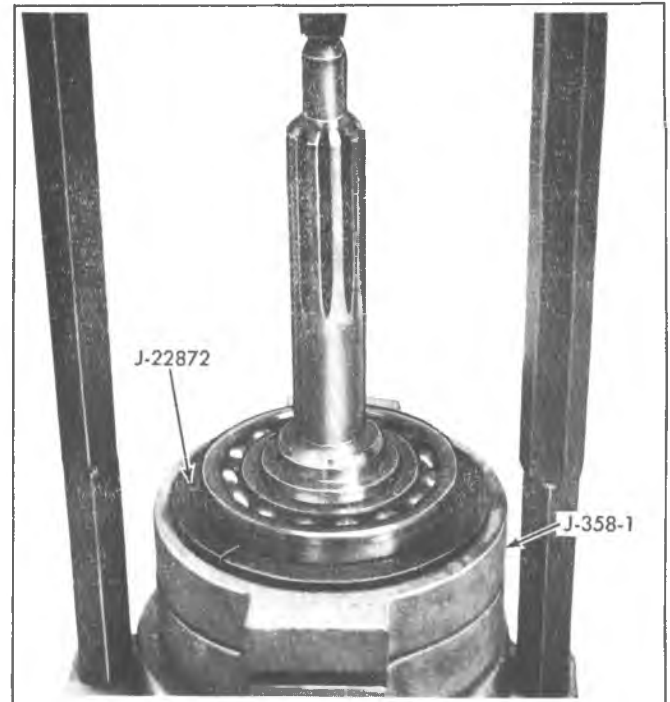

Fig. 7B-10L-Removing Drive Gear Bearing
4. Using Tool J-22873 press 1st speed gear bushing onto mainshaft until it bottoms against hub (Fig. 7B-17L). Lubricate all bushings with E.P. oil before installation of gears.